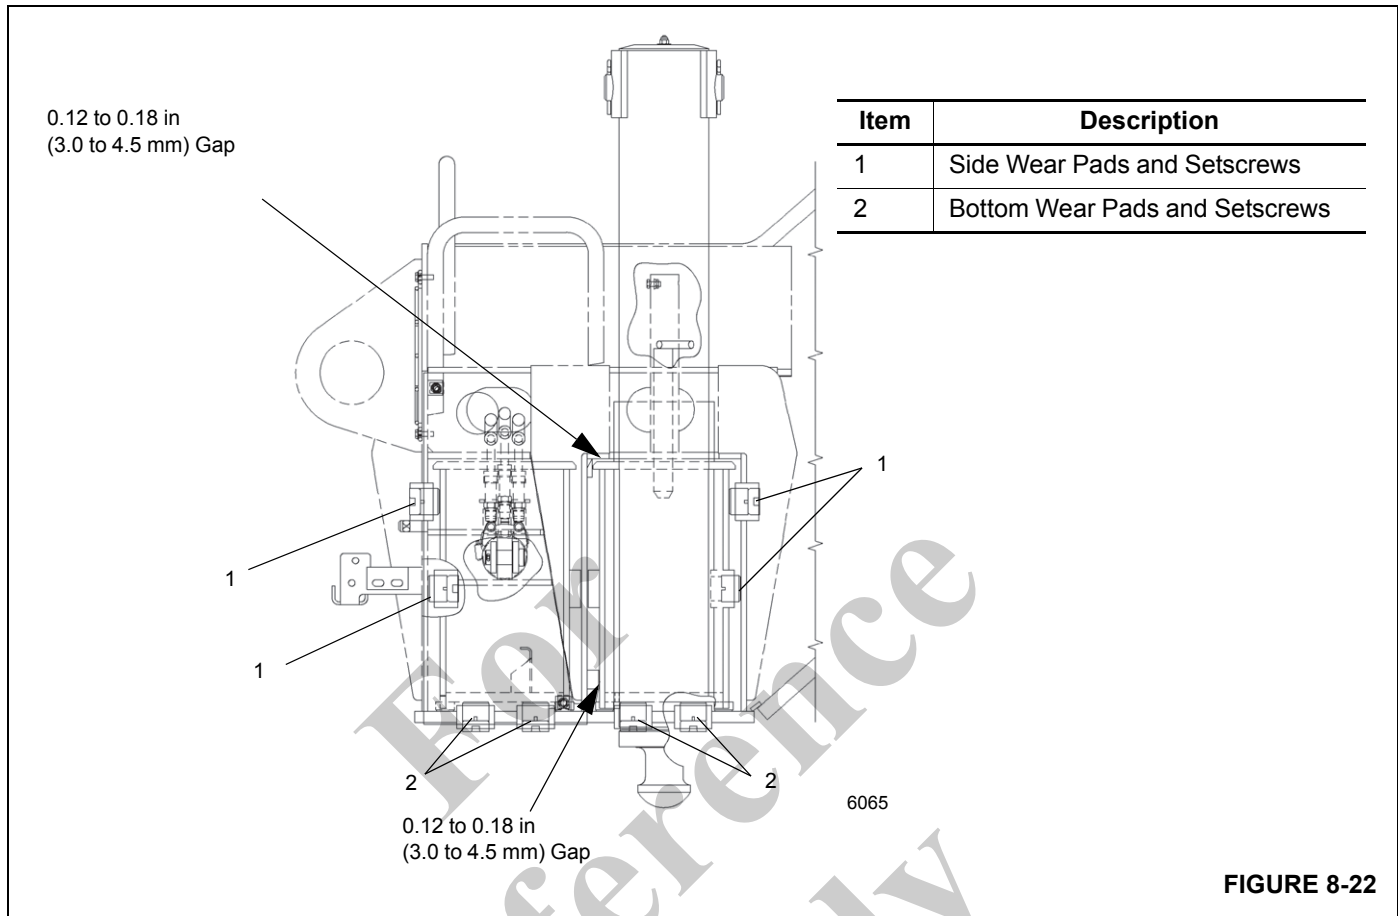

FIGURE 8-22
**NOTE:** When adjusting wear pads, refer to (Figure 8-22).